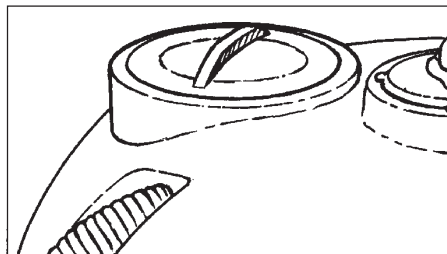

Figure 39
6. Make sure the recovery tank lid is in place and has been tightened (see figure 39).